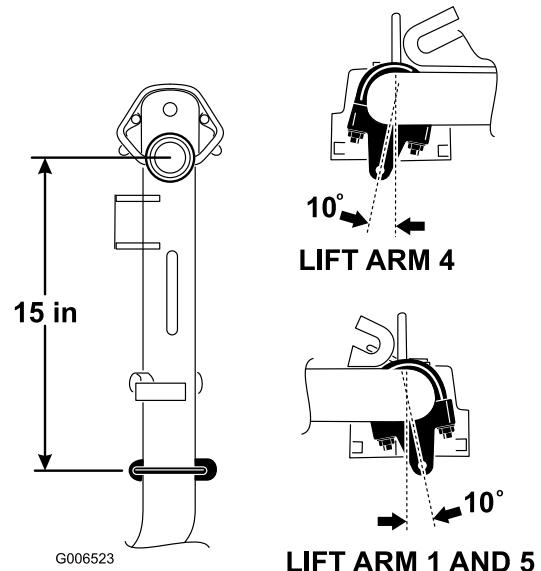

Figure 10
1. On lift arms #1, #4 and #5, position the chain brackets and U-bolts 15 inches behind the center line of the pivot knuckle (Figure 10). On lift arms #1 and #5 the brackets should be rotated to the right 10 degrees from vertical (Figure 10). On lift arm #4 the bracket should be rotated to the left 10 degrees from vertical (Figure 10).